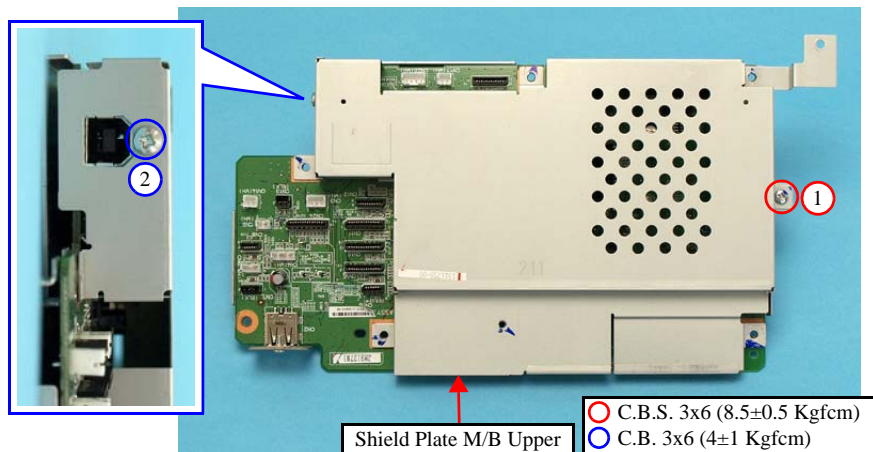

Figure 4-40. Removing the Main Board (1)
- When installing the Shield Plate M/B Upper, tighten the screw in the order given in Fig. 4-40.